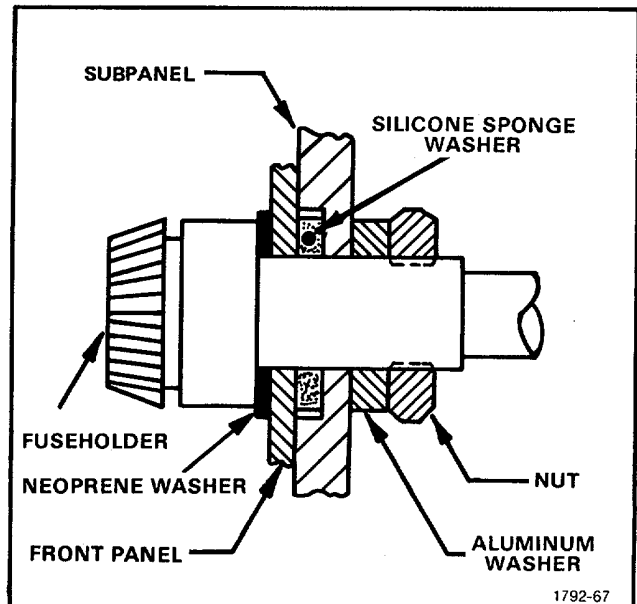

Figure 5-13. Detail of Fuseholder installation.
**14. Install Fuseholders In Front Panel (see Fig. 5-13)**
1. Install the two Fuseholders as shown in Fig. 5-13.